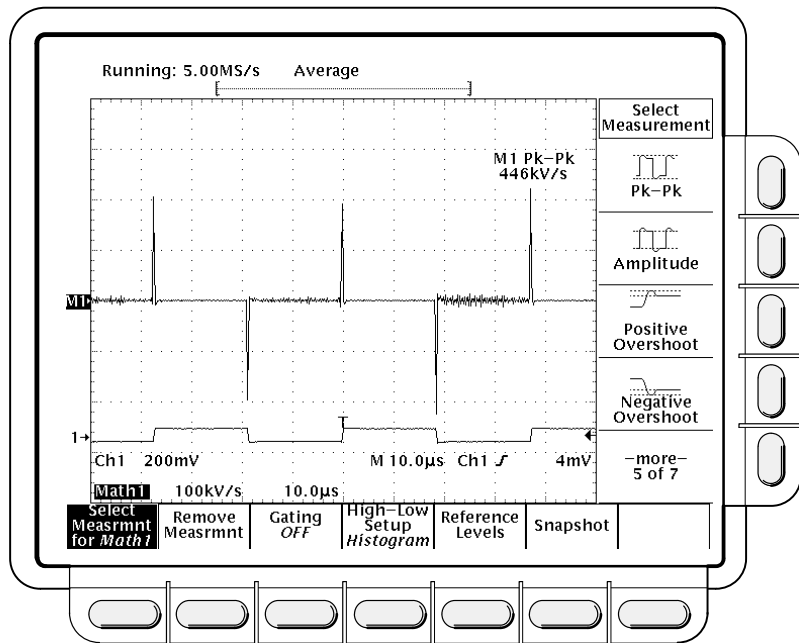

Figure 3-76: Peak-Peak Amplitude Measurement of a Derivative Waveform
3. Select up to four measurements in the side menu (see Figure 3-76).